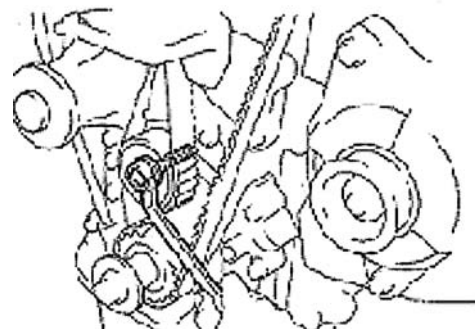

Figure 46
25. Install timing belt guide wheel. See (Figure 46)